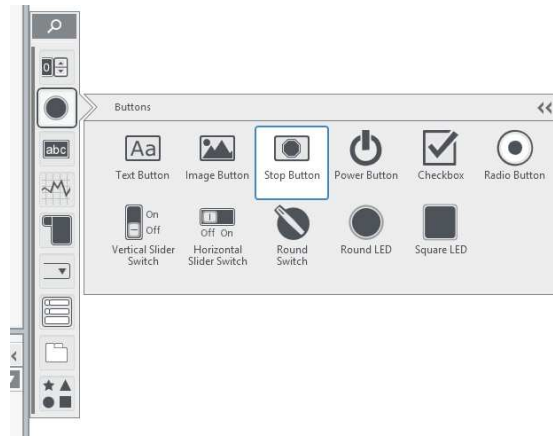
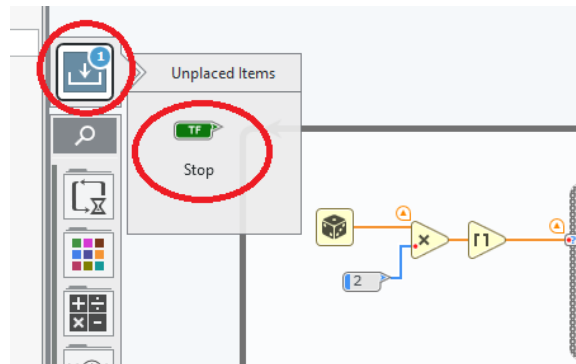

Figure 1.21: Stop Button
Figure 1.22: Stop Button
- From the “Panel palette” add a “Stop Button” to the panel(Fig. 1.21). Then by clicking the Diagram tab, update the diagram.(Fig. 1.22)